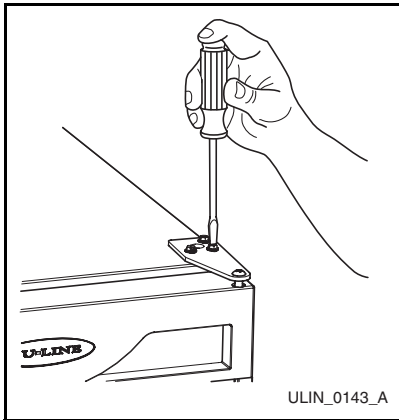

Figure 12
1. Loosen (do not remove) top (**Figure 12**) and bottom hinge screws.